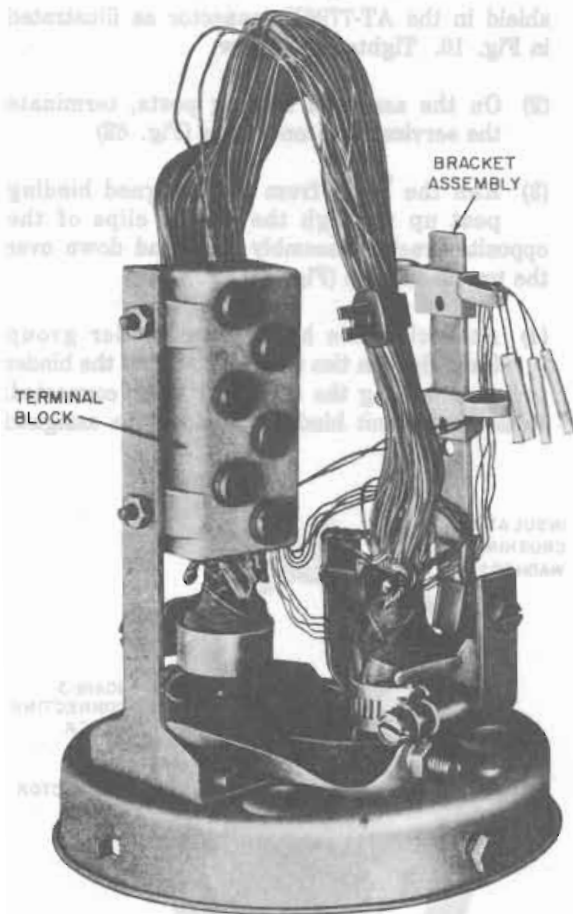

Fig. 62—Service Wire Installed—B Cable Closure (Protected 6A-Type Terminal Block)
- (2) On the assigned binding posts, terminate the service wire conductors (Fig. 62)
- (3) Run the leads from the assigned binding post up through the plastic clips of the opposite bracket assembly and bend down over the top plastic clip (Fig. 62).
- (4) At each cable butt, place binder group identification ties (see 7.01) around the binder group containing the cable pair to be connected. Remove the unit binder. Remove the assigned
cable pair from the binder group and cut the cable pair (see 7.02). Place the cable pair up through the plastic clips on the bracket assembly and bend down over the top plastic clip. Cut the cable pair conductors and terminal block leads even, 1-1/2 inches below the top plastic clip. Connect the cable pair to the terminal block leads with B wire connectors, (Fig. 62).